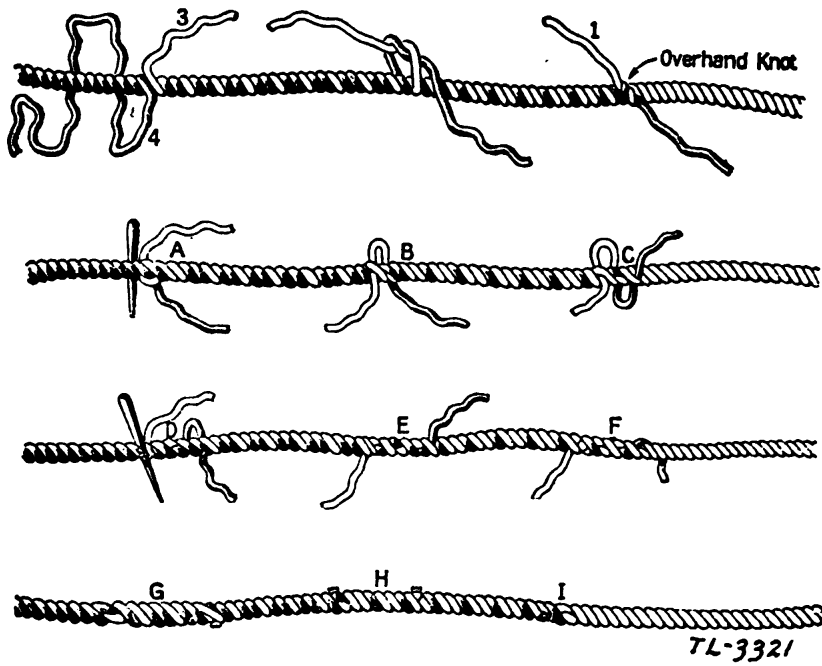

Figure 5
(5) Each pair of strands is tied together now, and the end of each strand tucked. Cut all strands the length of the shortest, that is, 6 to 9 inches long. Arrange each pair so that the strand from the left is in front of the strand from the right; or, in other words, arrange the strands so that they cannot untwist from the rope without first uncrossing. Tie each pair of strands together with an overhand knot and pull down tightly into rope as shown in figure 5.
(6) Tuck each strand as shown in figure 5.
(7) Tuck each strand twice more, tapering the ends if desired, and cut the end $\frac{1}{2}$ inch long.
(8) With a round stick pound down each part of the splice and roll it between two flat surfaces under pressure, as between foot and floor. The completed splice is shown in figure 5.